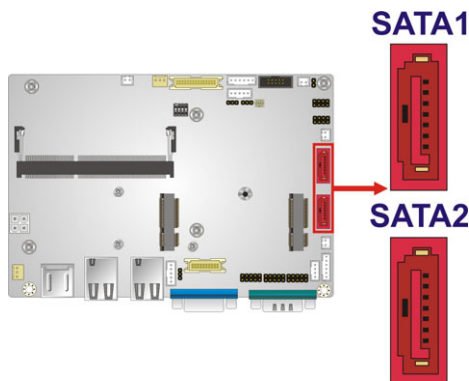

Figure 3-19: SATA Drive Connector Locations
- CN Location:** See **Figure 3-19**